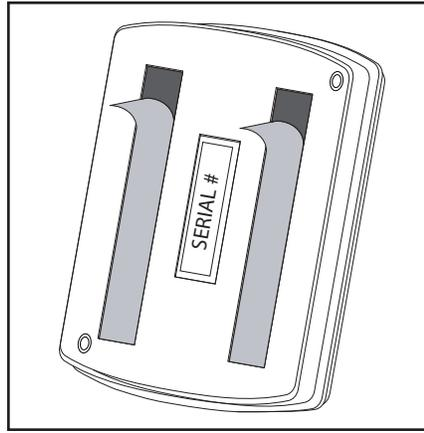

Figure 4: Double-Sided Tape Mount
For your convenience, an additional pre-printed serial number label is included. Prior to installing the transmitter, record the serial number or place the pre-printed serial number label on the 1141 base (see Figure 4). This number is required during programming. As needed, use the zone name and number label to identify a specific transmitter.
2. Remove the backing from the tape and place the housing in the desired location on the wall with the LED toward the top. See Figure 4.